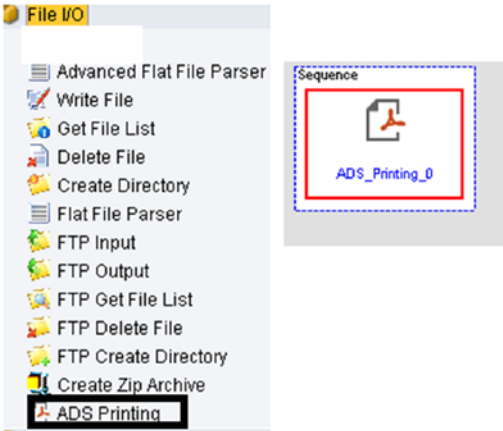

Figure 7-178. ADS Printing action block and its configuration
- *ADS Printing:* ADS printing lets you generate the file in PDF format with barcode/QR code from SAP MII. This can be directly used to print the result to a real printer, to save it in the file system, or feed it to a web browser, as shown in Figure 7-178.